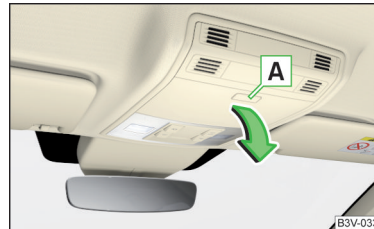

Fig. 118
- To **open**, press the -- button. The compartment folds in the direction of the arrow » Fig. 118.